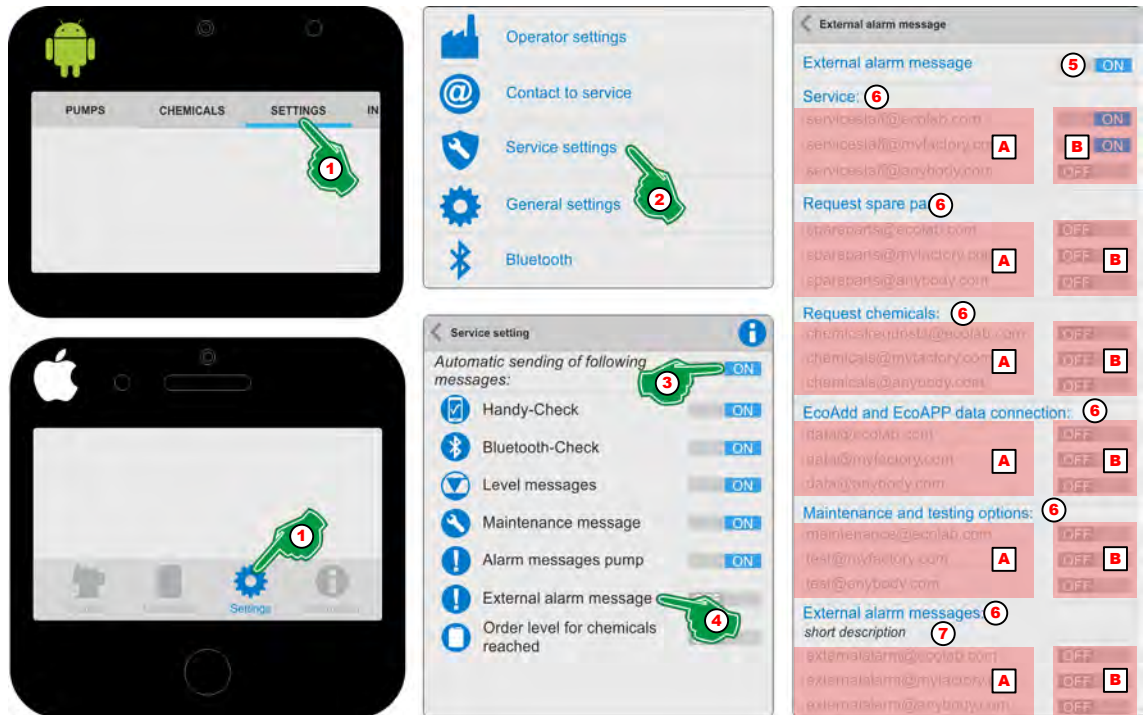

Fig. 11: ‘External alarm messages’
1. Select [Settings] (Fig. 11, Pos. 1).
2. Select [Service Settings]  (Fig. 11, Pos. 2).
3. Turn on ‘Automatic sending of following messages’ (Fig. 11, Pos. 3) **ON**.
4. The symbol or designation ‘External alarm messages’  (Fig. 11, Pos. 4).
5. Turn on ‘External alarm messages’ (Fig. 11, Pos. 5) **ON**.
6. Turn on desired service contacts (Fig. 11, Pos. A) **ON** (Fig. 11, Pos. B) .
7. To display errors when using an external controller (Fig. 11, , Pos. 7) introduce a brief description (Fig. 11, Pos. 8) for identification.